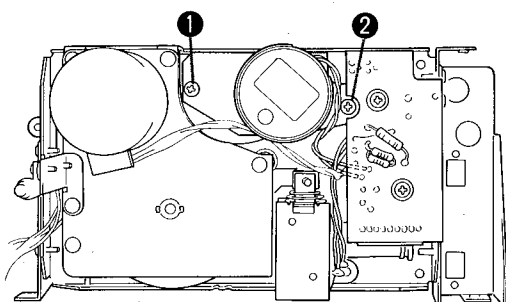

Fig. 14
1. Remove the screws ① and ② in Fig. 14 and then remove the reel motor bracket assembly from the cassette mechanism.
(Refer to Fig. 14 when wiring.)